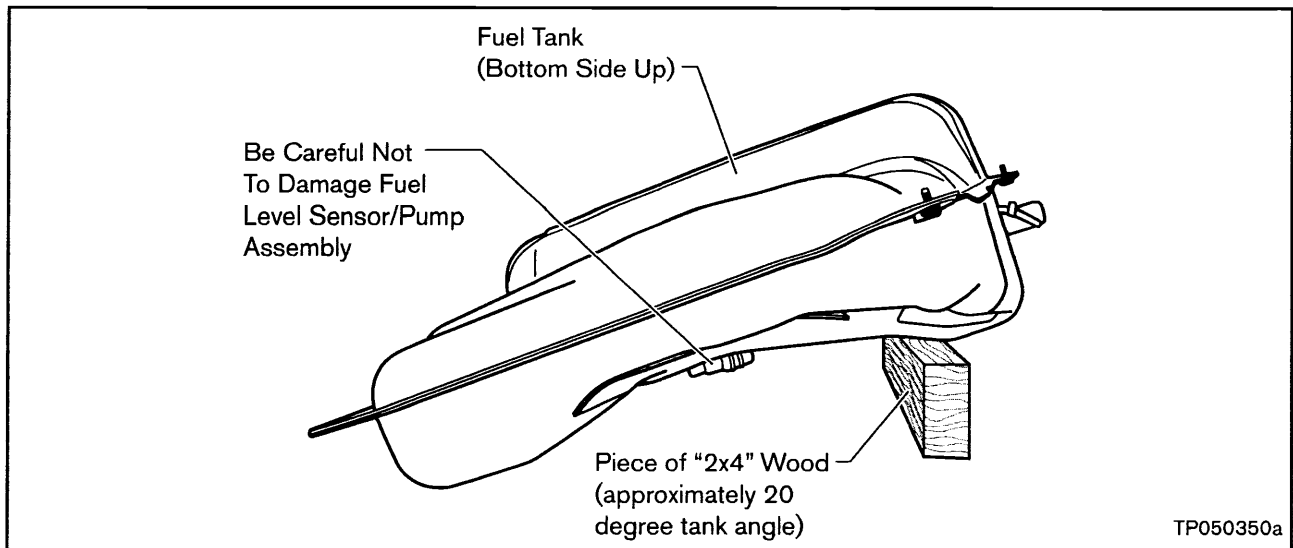

Figure 14
12. Turn the Fuel Tank upside down (bottom side up) and then “prop up” the filler-outlet side of the Tank with a piece of “2x4” wood as shown in Figure 14.